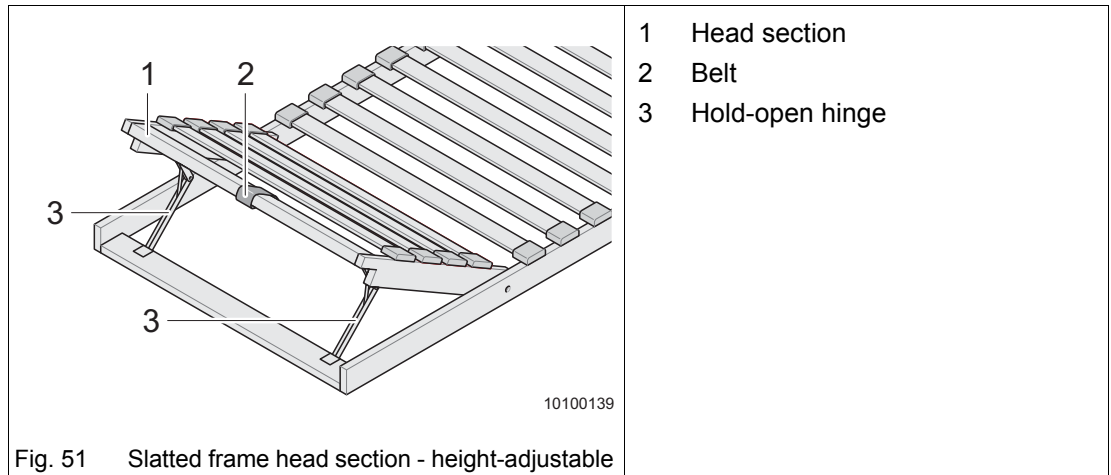

Fig. 51 Slatted frame head section - height-adjustable
- ➔ Use the belt (Fig. 51/2) on the head section (Fig. 51/1) to lift the slatted frame.
- ➔ Pull up to the desired height, the hold-open hinges (Fig. 51/3) engage automatically.
- ➔ Use the belt (Fig. 51/2) on the head section (Fig. 51/1) to lift the slatted frame to the highest position until the locking mechanism is released.